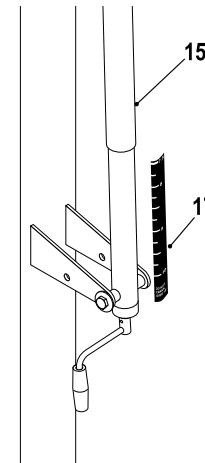

Figure 11
19. Adjust unit to 7-1/2 feet. Use a tape measure to measure from the top of the rim to the playing surface. Stick Height Decal (#17) to back of actuator (#16) with the "7.5" mark aligned with bottom of Actuator Sleeve (#15). See Figure 11.